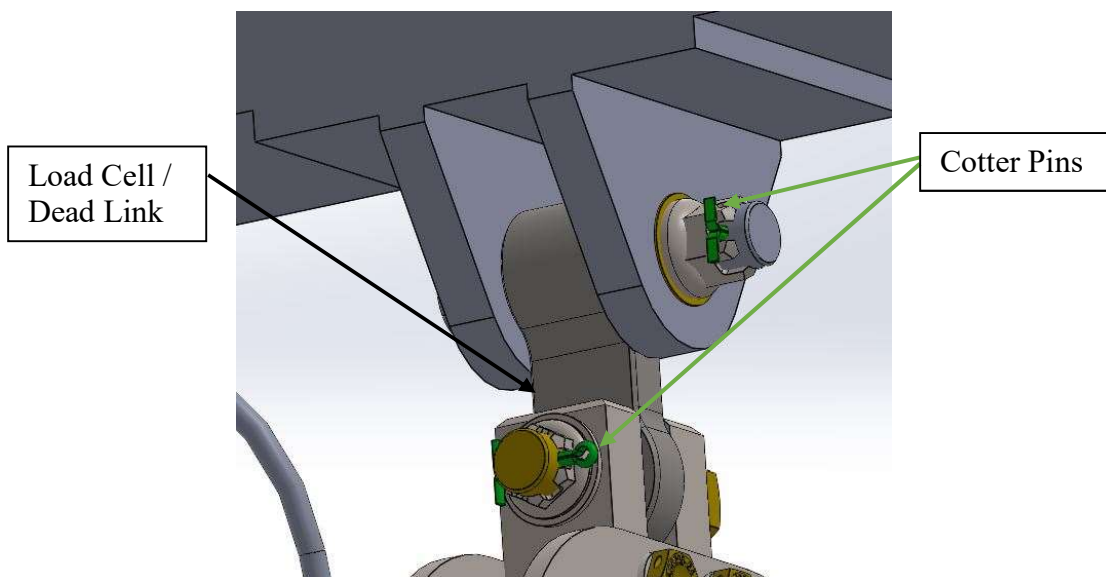

Figure 4.1: Cotter pin rendering (colored green for ICA view and installer's reference)
- Ensure that the two primary mounting bolts (through the Load Cell (C00002-00009) or Dead Link (650-010-150-100), are secured and the cotter pins are fully attached. (See Figure 4.1)